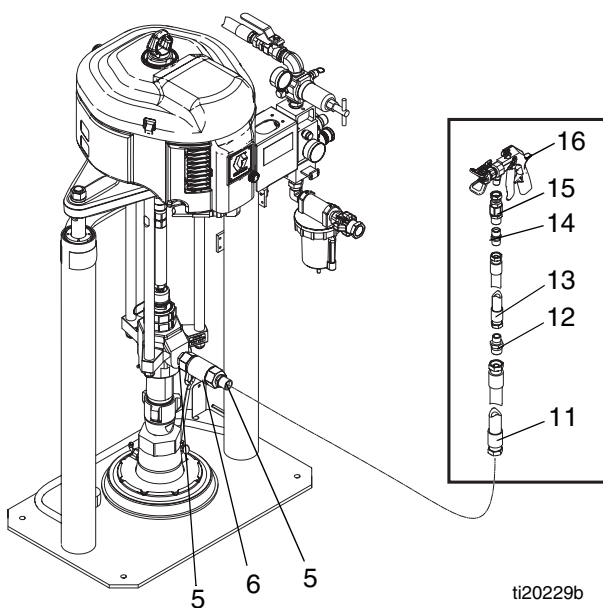

FIG. 6
NOTE: Kit 24P832 includes items 5, 6, and 11-16 in FIG. 6.
1. If installing mix line and gun kit 24P832, install nipple (5), check valve (6), and second nipple (5) onto the pump outlet as shown in FIG. 6.
2. Connect the supplied 3/4 in. hose (11) to the nipple (5). See FIG. 6.
3. Use reducing nipple (12) to connect the supplied 1/2 in. whip hose (13) to the 3/4 in. hose (11).
4. Use nipple (14) to connect gun swivel (15) to whip hose (13).
5. Connect gun (16) to gun swivel (15).